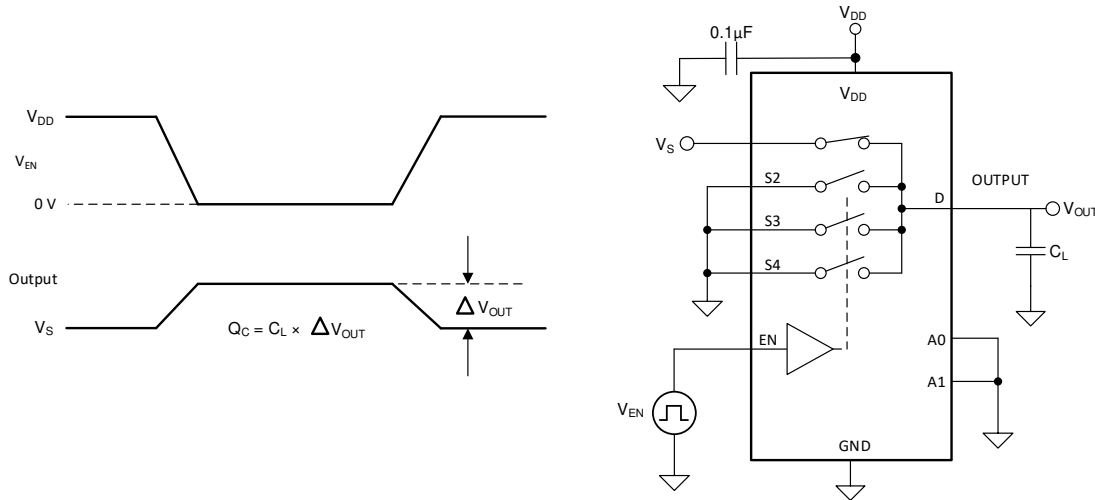

Figure 13. Charge-Injection Measurement Setup
The TMUX1204 has a transmission-gate topology. Any mismatch in capacitance between the NMOS and PMOS transistors results in a charge injected into the drain or source during the falling or rising edge of the gate signal. The amount of charge injected into the source or drain of the device is known as charge injection, and is denoted by the symbol Q_C . Figure 13 shows the setup used to measure charge injection from source (Sx) to drain (D).